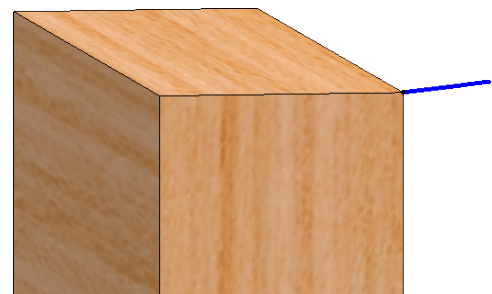

Fig. 2
Step 7. Sketch a line from outside rear corner of leg, Fig. 2.